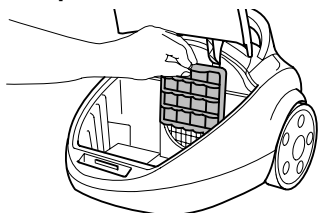

Fig. 24
2. Remove the filter holder together with the protective motor filter (Fig. 24).